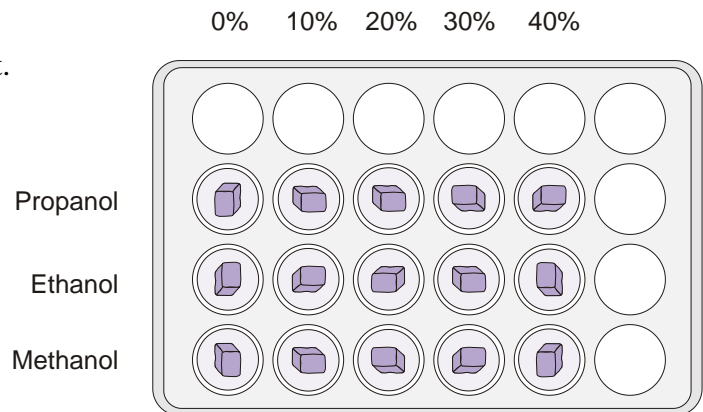

Figure 1
6. Prepare five ethanol solutions. To do so, repeat Steps 3 and 4, substituting ethanol for methanol. Place each solution in the second row of wells. See Figure 1.
7. Prepare five 1-propanol solutions. To do so, clean your pipette and repeat Steps 3 and 4, substituting 1-propanol for methanol. Place each solution in the third row of wells. See Figure 1.